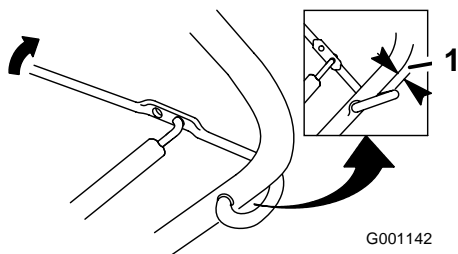

Figure 21
2. Ensure that a 1/16 to 1/8 inch (2 to 3 mm) gap exists between the control bar and the handle (Figure 21).